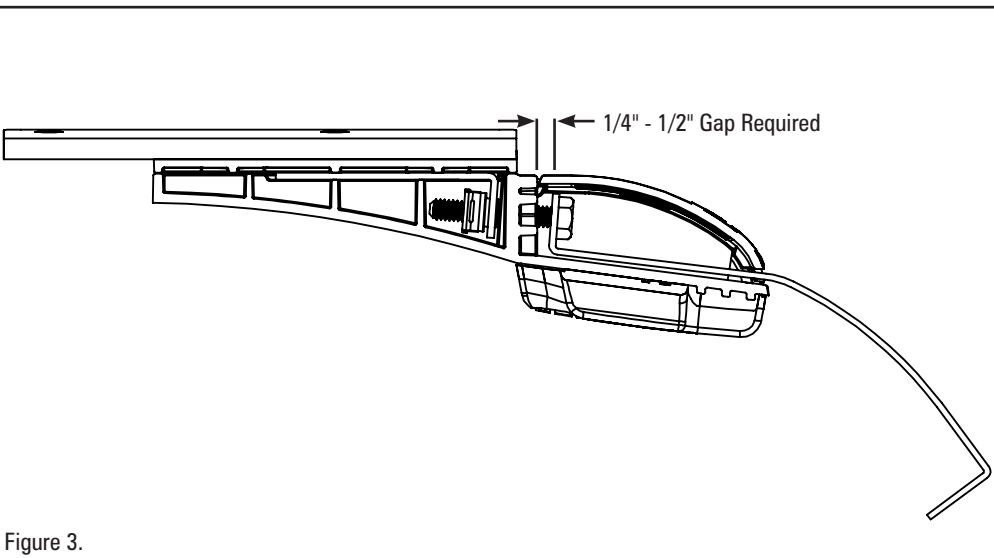

Figure 3.
2. Place lightbar centered on the roof, and hold brackets up to the lightbar. A 1/4" to 1/2" gap should be between the hook bracket and front wall of the mounting foot prior to putting any tension on the hook bracket bolt (See Figure 3). Adjust the mounting foot position to accommodate for this gap.